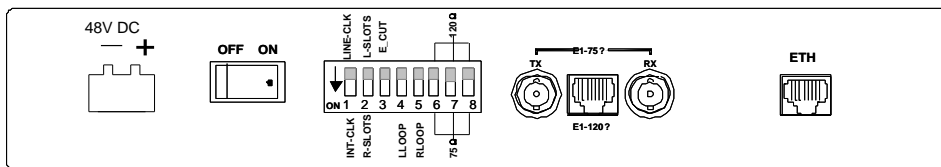

Figure 4 DC input rear panel of FE1/100BASE-TX bridge
- The DC input rear panel of FE1/100BASE-TX Bridge is shown in figure 4.